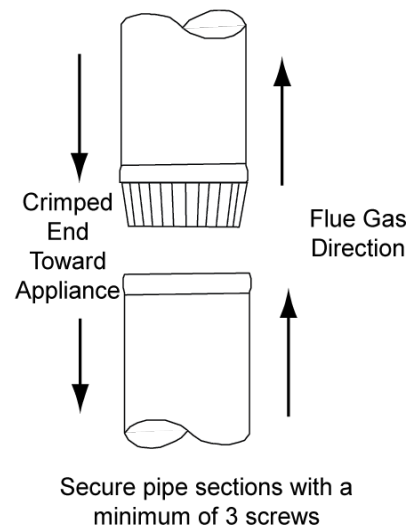

Fig 3
- Each connector section must be oriented with the male (crimped) end pointing toward the stove. See Fig 3.